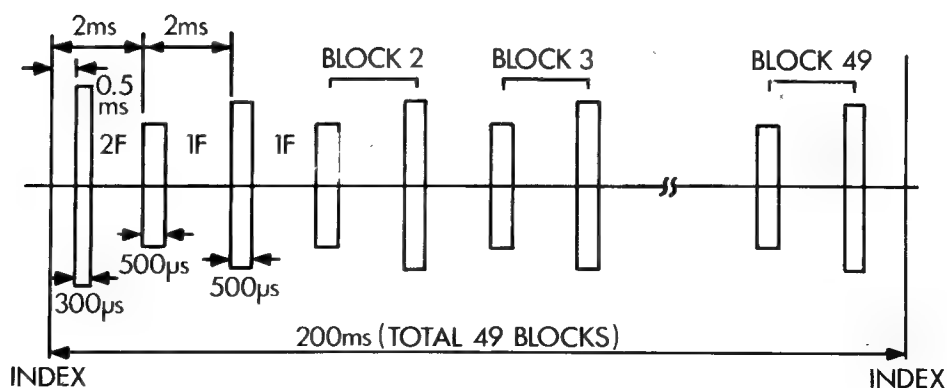

Fig.1 Waveform of T19 (Servo pattern)
1. Radial adjustment by use of Track 19 (Fig. 1). (Track 39, 119).	○
Figures 1 to 10 correspond with test points marked on the circuit diagram.